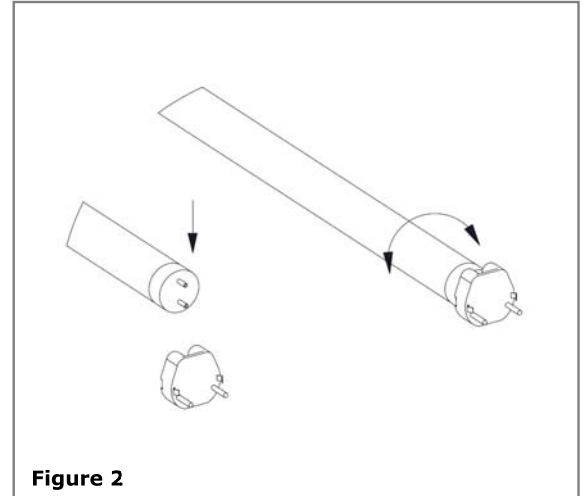

Figure 2
2. Unwrap the lamps and install into lamp sockets by inserting the prongs into the sockets and turning until they lock into position. **See Figure 2.**